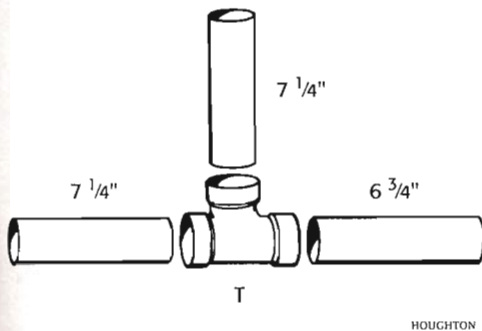

Figure 11. Lower brace
c. Using one T section, one 6 3/4-inch connector and two 7 1/4-inch connectors, assemble the lower brace (as shown in figure 11). Join one 7 1/4-inch connector to the top-inlet end of the T section. Join the 6 3/4-inch connector to the bottom-outlet side of the T section. Join the remaining 7 1/4-inch connector to the middle-center connection of the T section. (Using connectors of different lengths compensates for the off-center middle connection of the T section and centers the middle connection in the completed brace assembly.)